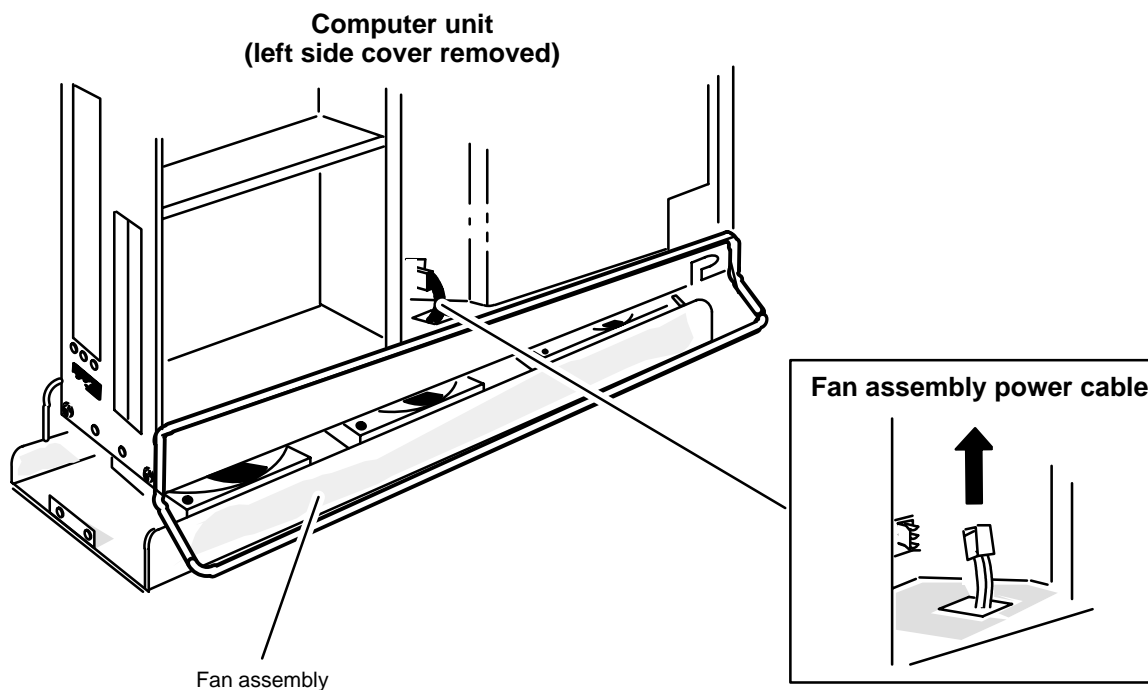

Figure 11-4 Positioning the Fan Assembly Under the Computer Unit
1. Slide the fan assembly directly under the computer unit as shown in Figure 11-4.
2. Pull the fan assembly power cable up through the hole in the computer unit as shown in Figure 11-4.